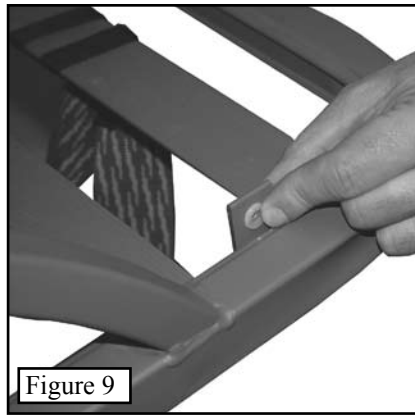

Figure 9
Step 4. Insert the short shank bushing into the outside of each footrest bracket from **Step 1** (See **Figure 9**).